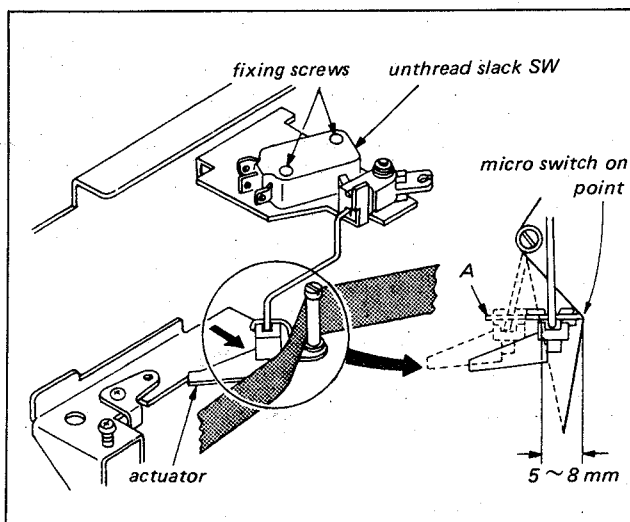

Fig. 6-28. Unthread slack switch adjustment (FWD mode with tape)
2. Push the actuator of the unthread slack switch with the finger in the direction indicated by the arrow in Fig. 6-28 until the switch is turned off. Confirm the turning-OFF by a click sound of the microswitch.
4. Release the actuator from the finger at this position of step 3. Confirm that the moving distance of the actuator from the step 3 point to the point where it touches the tape to be stopped is within the specification shown in Fig. 6-28. If the specification is not satisfied, adjust the position of the unthread slack switch.